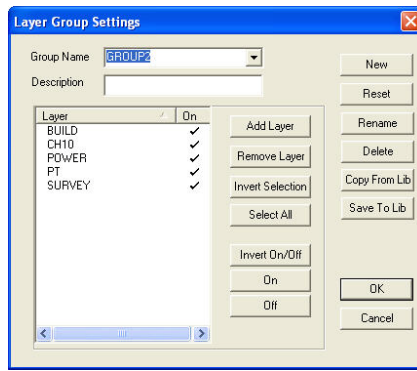

Figure 7-11. Layer Group Settings
- Highlight the layers for the group, and click **Add Group** on the *Layer Settings* dialog box (Figure 7-11).
The command buttons on the *Layer Group Settings* dialog box performs the following operations for layers (Figure 7-11):